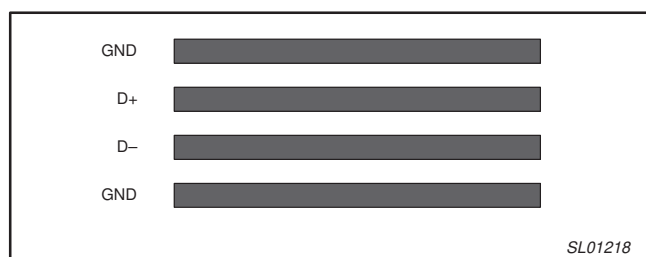

Figure 14. PCB layout for D+ and D-
2. Route the D+ and D- lines parallel and close together with ground guards enclosing them (see Figure 14).